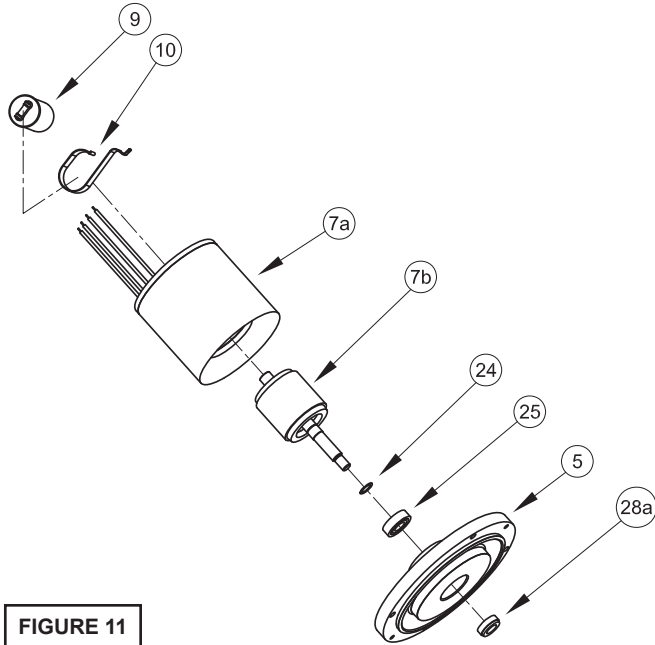

FIGURE 11
replacement is required, remove bearing (25) from motor shaft using a wheel puller or arbor press, see Figure 11. Check motor capacitor (9) with an Ohm meter by first grounding the capacitor by placing a screwdriver across both terminals and then removing screwdriver. Connect Ohm meter (set on high scale) to terminals. If needle moves to infinity (∞) then drifts back, the capacitor is good. If needle does not move or moves to infinity (∞) and does not drift back, replace capacitor (9). Inspect motor winding for shorts and check resistance values. Check rotor for wear. If rotor or the stator windings are defective, the complete motor must be replaced.